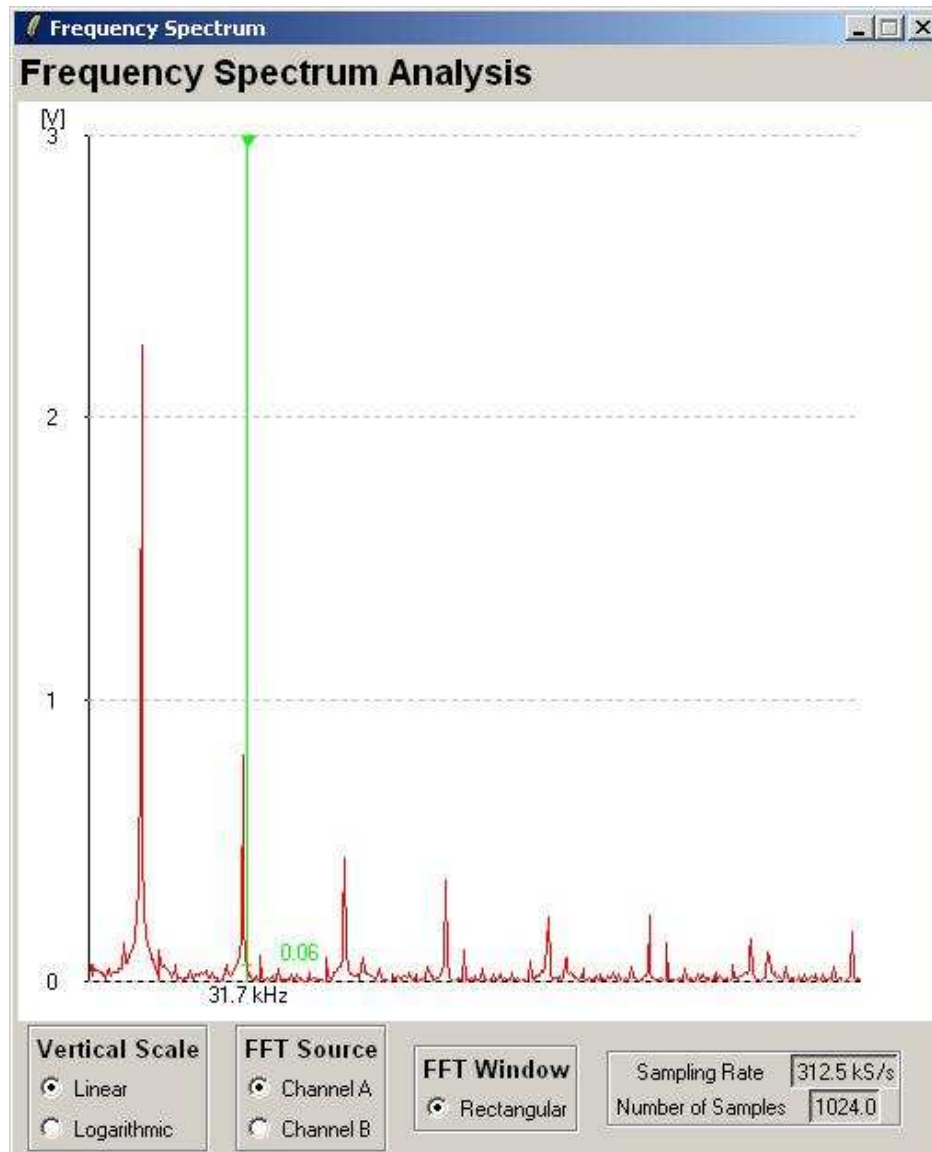

Figure 10: Square Wave Spectrum
Clicking on Tools -> Spectrum Analysis brings up the spectrum analysis display of figure 10. The displayed spectrum in this image is a 10kHz square wave.
- The Effective Sampling Rate is shown in a readout at the bottom right corner of the spectrum display. This is important: the sampling rate must be at least twice the frequencies being analysed to avoid aliasing. Put another way, there must not be frequency components above the Nyquist rate, which is half the sampling rate. In the example shown in figure 10, the sample rate is 200kHz. The frequency components range from 10kHz to 90kHz, below the Nyquist rate of 100kHz6.
- As the readout cursor is dragged higher in frequency it jumps from bin to bin, reading out the centre frequency of each bin. A given frequency component may not be centred in its bin, so the frequency readout will be only approximate. For example, in figure 10, the square wave frequency (generated by a Syscomp WGM-101 waveform generator) is at a frequency 10kHz to within a fraction of a Hz. The 9th harmonic is at 90kHz. The spectrum display readout puts the 9th harmonic at 90234 Hz, which is only approximately correct.
Determine the frequency resolution (bin spacing) for the case of the display of figure 10.